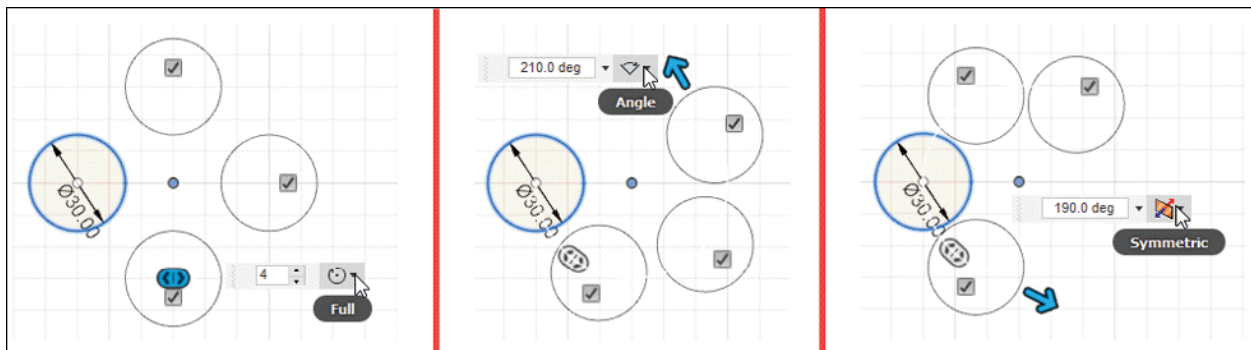

Figure-58. Tools of Type drop down
- Select **Full** option from **Angular Spacing** drop-down if you want to create a pattern over full 360 round. Select the **Angle** option from **Angular Spacing** drop-down if you want to define the span of pattern in angle value. Select the **Symmetric** option from **Angular Spacing** drop-down if you want to create a circular pattern symmetric to the center line; refer to Figure-58.